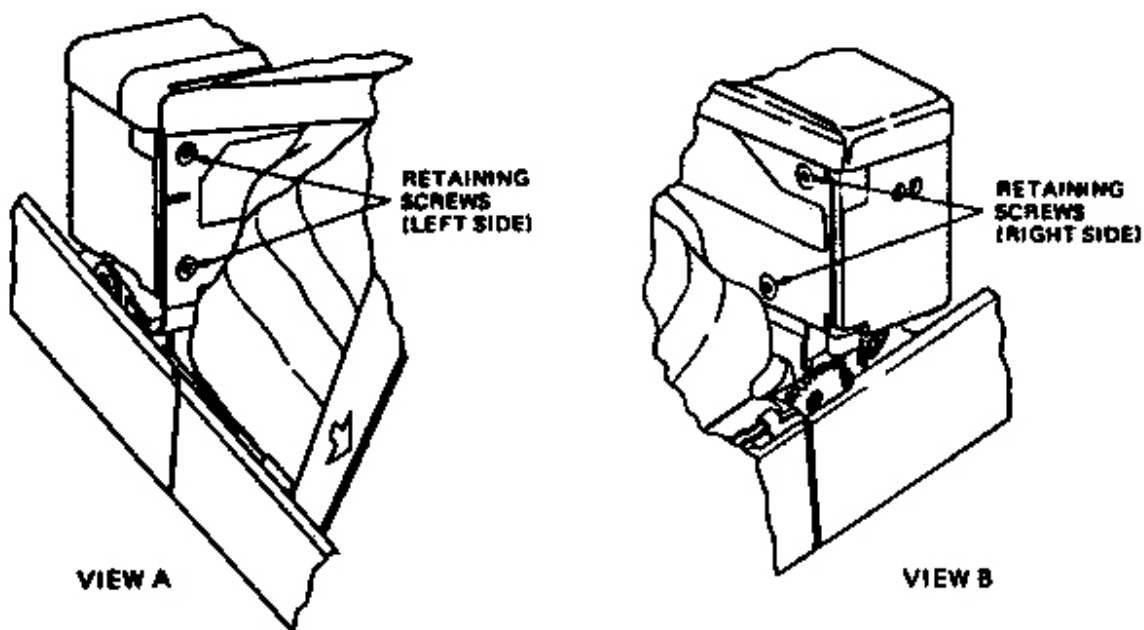

Figure 4-9 Shutter mount retaining screws
8. Remove the four shutter housing retaining screws from the rear of the shutter mounting hinge bracket (Figure 4-9). (Check for square head or Bristol head screw. Replace with same type.)